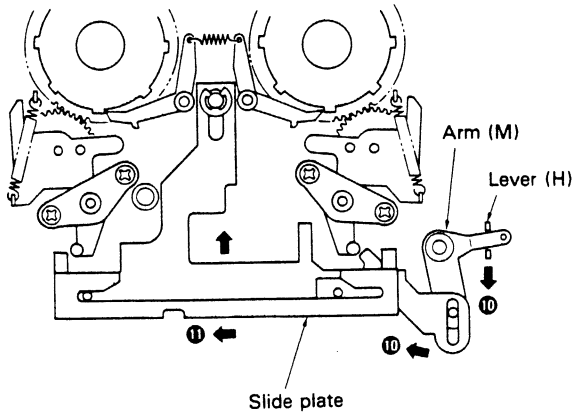

Fig. 35
6. As lever (H) moves, arm (M) moves in the direction indicated by arrow ⑩ in Figure 35. This, in turn, causes the pin on arm (M) to move the slide plate in the direction of arrow ⑪. At this point, the REV side reel is activated (see description of this action at "Play Mechanism").